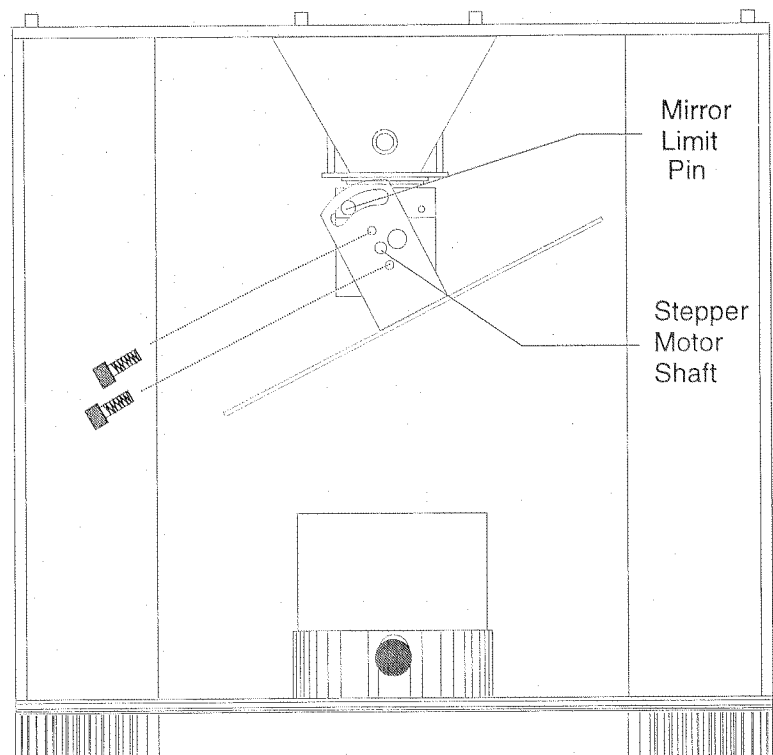

Figure 8.10. Replacing the Mirror Assembly
1. Remove the two 6-32 by 6.35 mm (1/4 inch) long allen screws that attach the mirror assembly to the tilt motor. Refer to Figure 8.10.